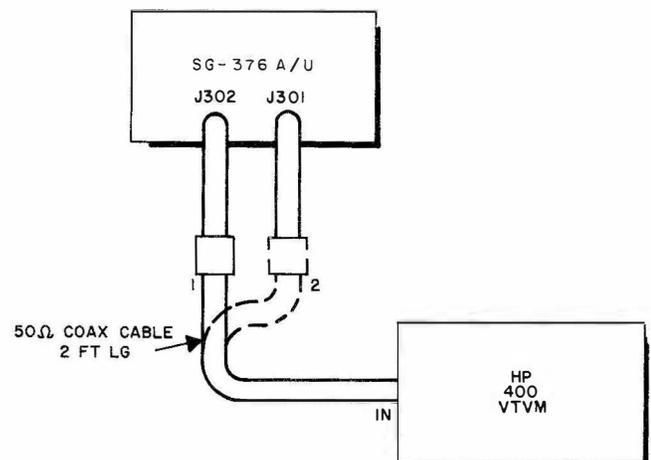

Figure 5-4. Set-up for Output Voltage Test, Connection Diagram
(4) OUTPUT VOLTAGE. - Refer to Para. 3.4.7, 3.5.2 and 3.6.7 of MIL-G-23532 (Ships) and reconnect the equipments as shown previously in figure 5-4.
(e) Reconnect the equipment as shown in figure 5-4. Set CHAN. SELECT, S301, to the A + B position. Set CHANNEL A FREQUENCY CPS controls S501 to 10, S502 to 0, and S503 to X200 to produce a 20 kc signal. Set CHANNEL BCPS controls S601 to 9, S602 to 0, and S503 to X200 to produce a 18 kc signal. Set both ATTN. DB controls (AT-301 and AT-302) to 0 db.